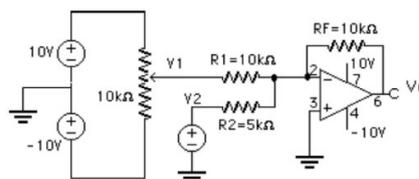

Figure 10: Summing amplifier
- Build the summing amplifier of Figure 10. First, sketch how you will layout the circuit on your protoboard. For voltage source V_2 use the 6V supply of the HP triple output power supply. Make sure you connect all the grounds together to get a common ground. This is a crucial step in any circuit. *Explain why common ground is important in your report.*